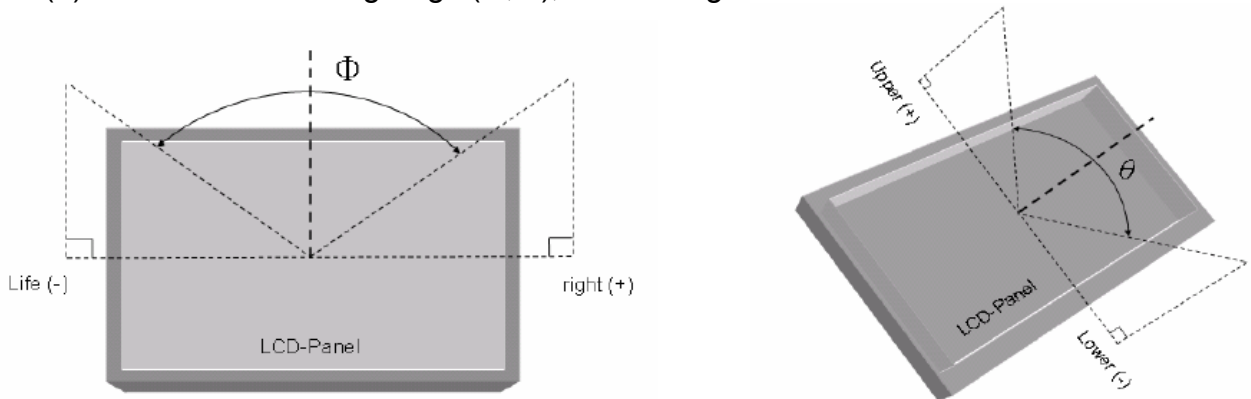

Fig9-2 Definition of Viewing Angle
- (4) Definition of Viewing Angle( $\theta, \Phi$ ), refer to Fig9-2 as below :